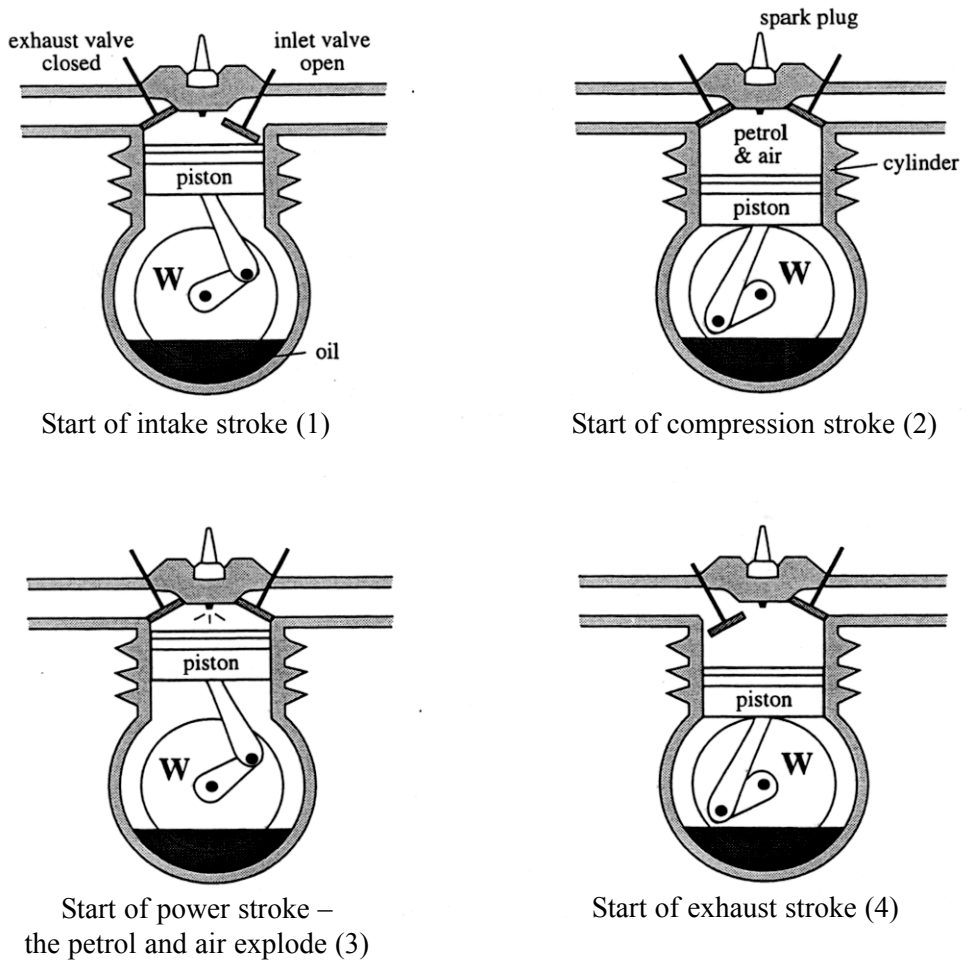

Figure 2 Four stroke engine
The internal combustion engine burns the fuel inside the cylinder. A common petrol engine is the “four-stroke” as shown in the diagrams of one cylinder in Figure 2. This works in a cycle of four movements of the piston, each of which have a different effect on the gases inside. A typical car engine has 4 cylinders and the power stroke occurs at different times for each. The valves are opened and closed at the right time by cams on a camshaft. This is linked to the piston motion via the crankshaft.
1.1 The exhaust valve (Figure 2) opens for the exhaust stroke to let the
1.2 The pistons are connected via the connecting rods to the part marked **W** in **Figure 2** which is the
1.5 The oil is there (Figure 2) to